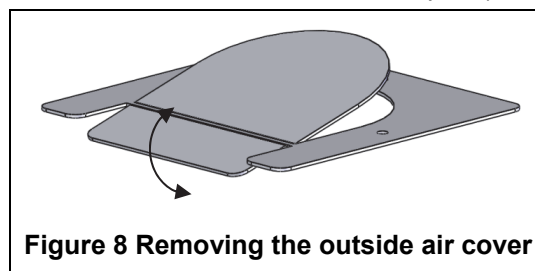

Figure 8 Removing the outside air cover
2. Bend the central part of the cover back and forth to break away the two tabs and remove the central part (see Figure 8).